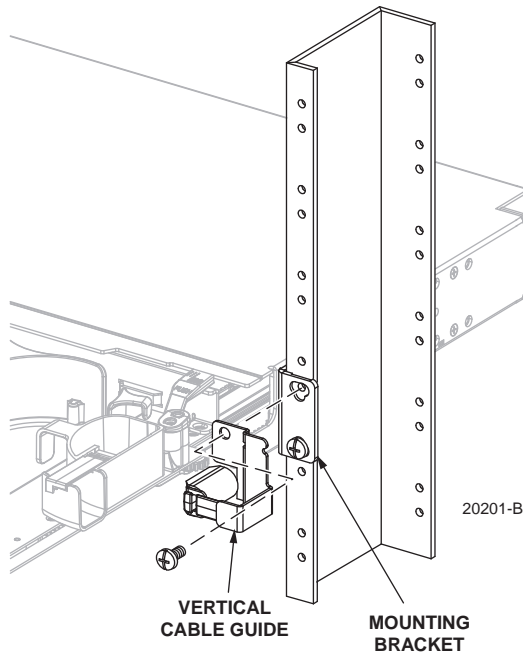

Figure 6. Installing VCGs, 40mm or 2.2-inch recess (19-Inch Rack Mount)
- a. Recess is 40 mm (1.54 inch) or 2.2-inch (5.59 cm) and cable is routed down. Mount the VCGs on the rack narrow flange using the same screw and hole position as used for the top mounting screw on the panel mounting bracket. Refer to Figure 6.